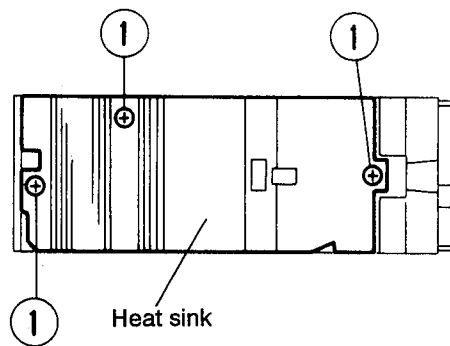

Fig. 4-3
■ Removing the heat sink (See Fig. 4-3)
2. Remove three screws ① retaining the heat sink.